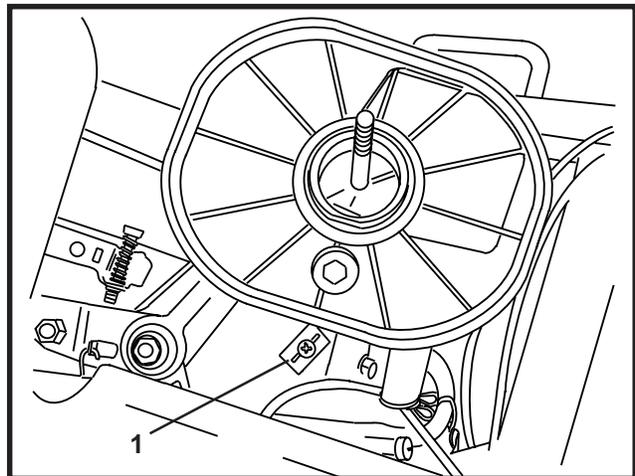

FIGURE 5
1. HAIR PIN (1)
2. CLEVIS PIN (1)
- Remove air cleaner and double wire clamp from engine. Figure 5.